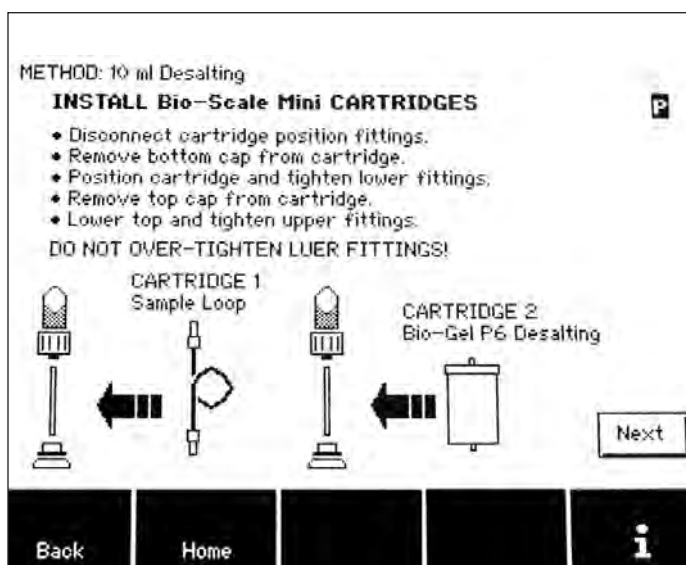

Fig. 7.10. Install Bio-Scale Mini Cartridges screen showing sample loop installation in the cartridge 1 position.
Sample loading for a desalting-only method is achieved via a sample loop. Installation is directed by the Install Bio-Scale Mini Cartridges screen (Figure 7.10). The desalting sample loop accessory connects to the instrument in the cartridge 1 position and the desalting cartridge in the cartridge 2 position (Figure 7.12).
3. Install the desalting cartridge in the cartridge 2 position. Touch the Next button to proceed to the Start Run screen (Figure 7.10).